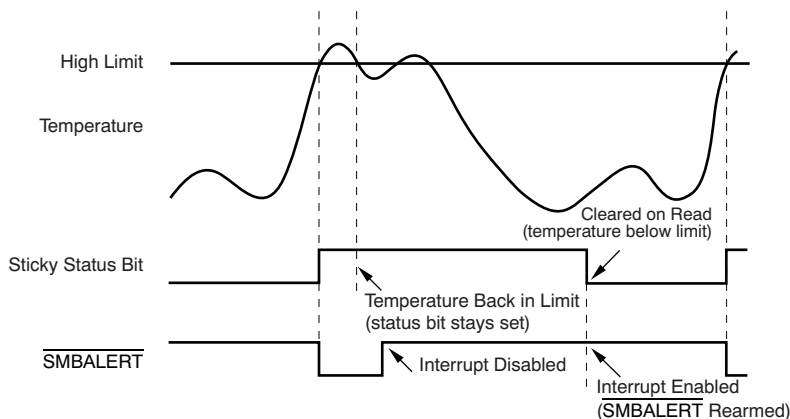

Figure 32. How Masking the Interrupt Source Affects SMBALERT
7. Periodically poll the status registers. If the interrupt source bit has cleared, reset the corresponding interrupt enable bit to '1'. This reset makes the SMBALERT output and status bits behave as shown in Figure 32.